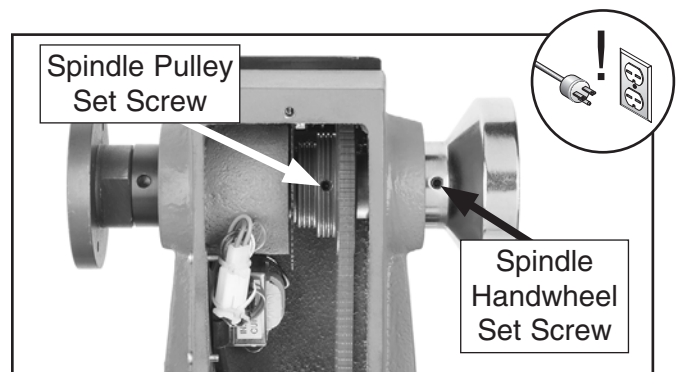

Figure 52. Set screw locations.
4. Loosen set screws on spindle handwheel (see **Figure 52**), and turn clockwise to unthread and remove.